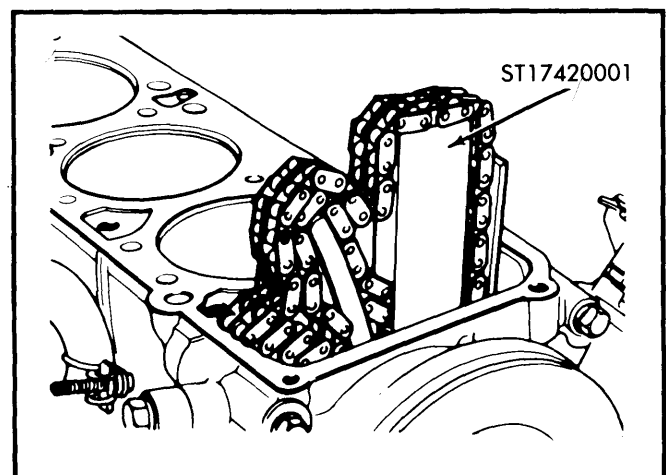

Fig. 1 Holding Timing Chain with Special Support Tool
2) Disconnect all hoses and vacuum lines from intake manifold to cylinder head or block. Remove intake and exhaust manifold as an assembly. Remove rocker cover and fuel pump drive cam. Turn crankshaft so No. 1 piston is at TDC on compression stroke. Paint alignment marks on timing chain and camshaft sprocket to aid in installation. Remove camshaft sprocket, and use suitable retainer tool (ST17420001) to support timing chain as shown in Fig. 1. Remove cylinder head attaching bolts and remove cylinder head.